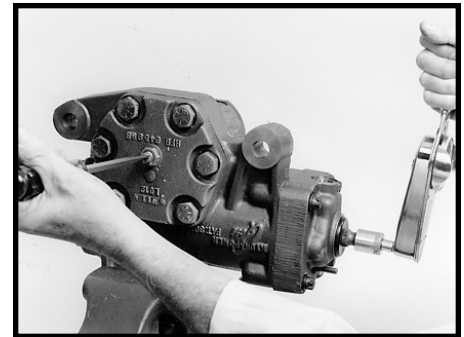

Figure 164
2. Tighten sector shaft adjusting screw (51) to provide 25 to 30 in. lbs. (2.8 to 3.4 N m) of torque required to rotate the worm shaft/input shaft (17) through 180° each side of center. SEE FIGURE 164.